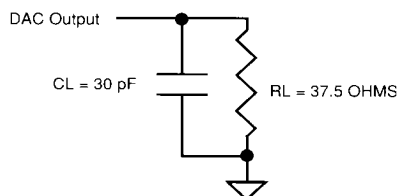

Figure 1
DAC Switching Test Load	Figure 1
1. ICC is measured with VCC = VCC (max) and t_{CHCH} = t_{CHCH} (min). The DAC test load is as shown in Figure 1. DQ0-DQ7 are unloaded. IREF = -8.88 mA.